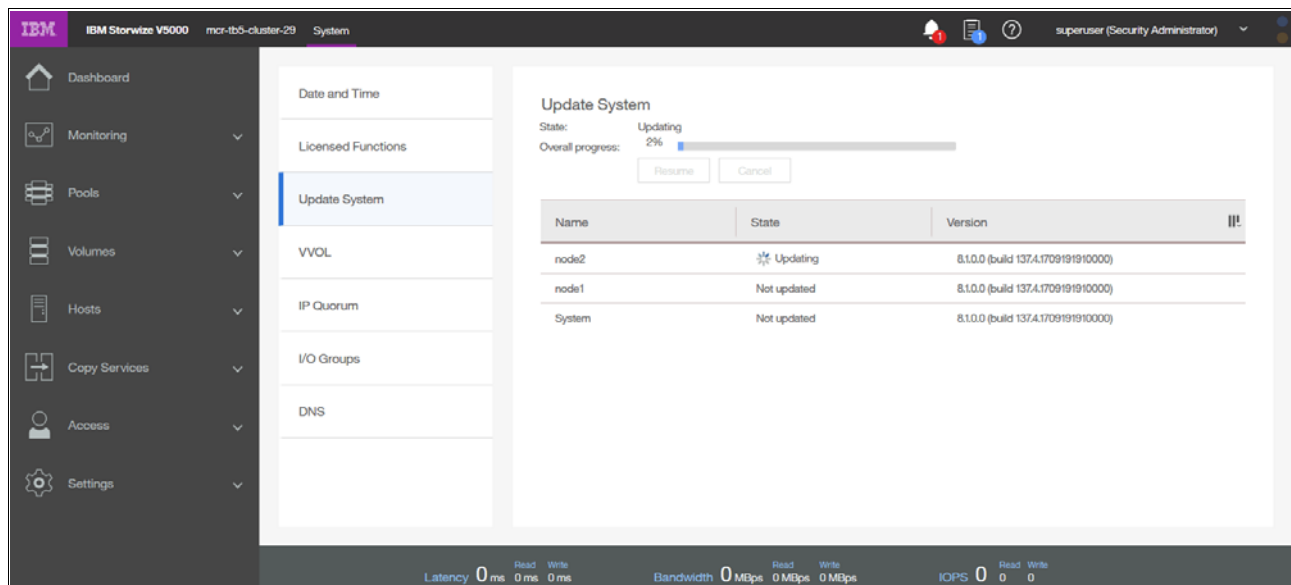

Figure 12-41 Automatic update progress
- Wait for each node to be updated and rebooted, one at a time until the update process is complete. The GUI displays the overall progress of the update and the current state of each node, as shown in Figure 12-41.